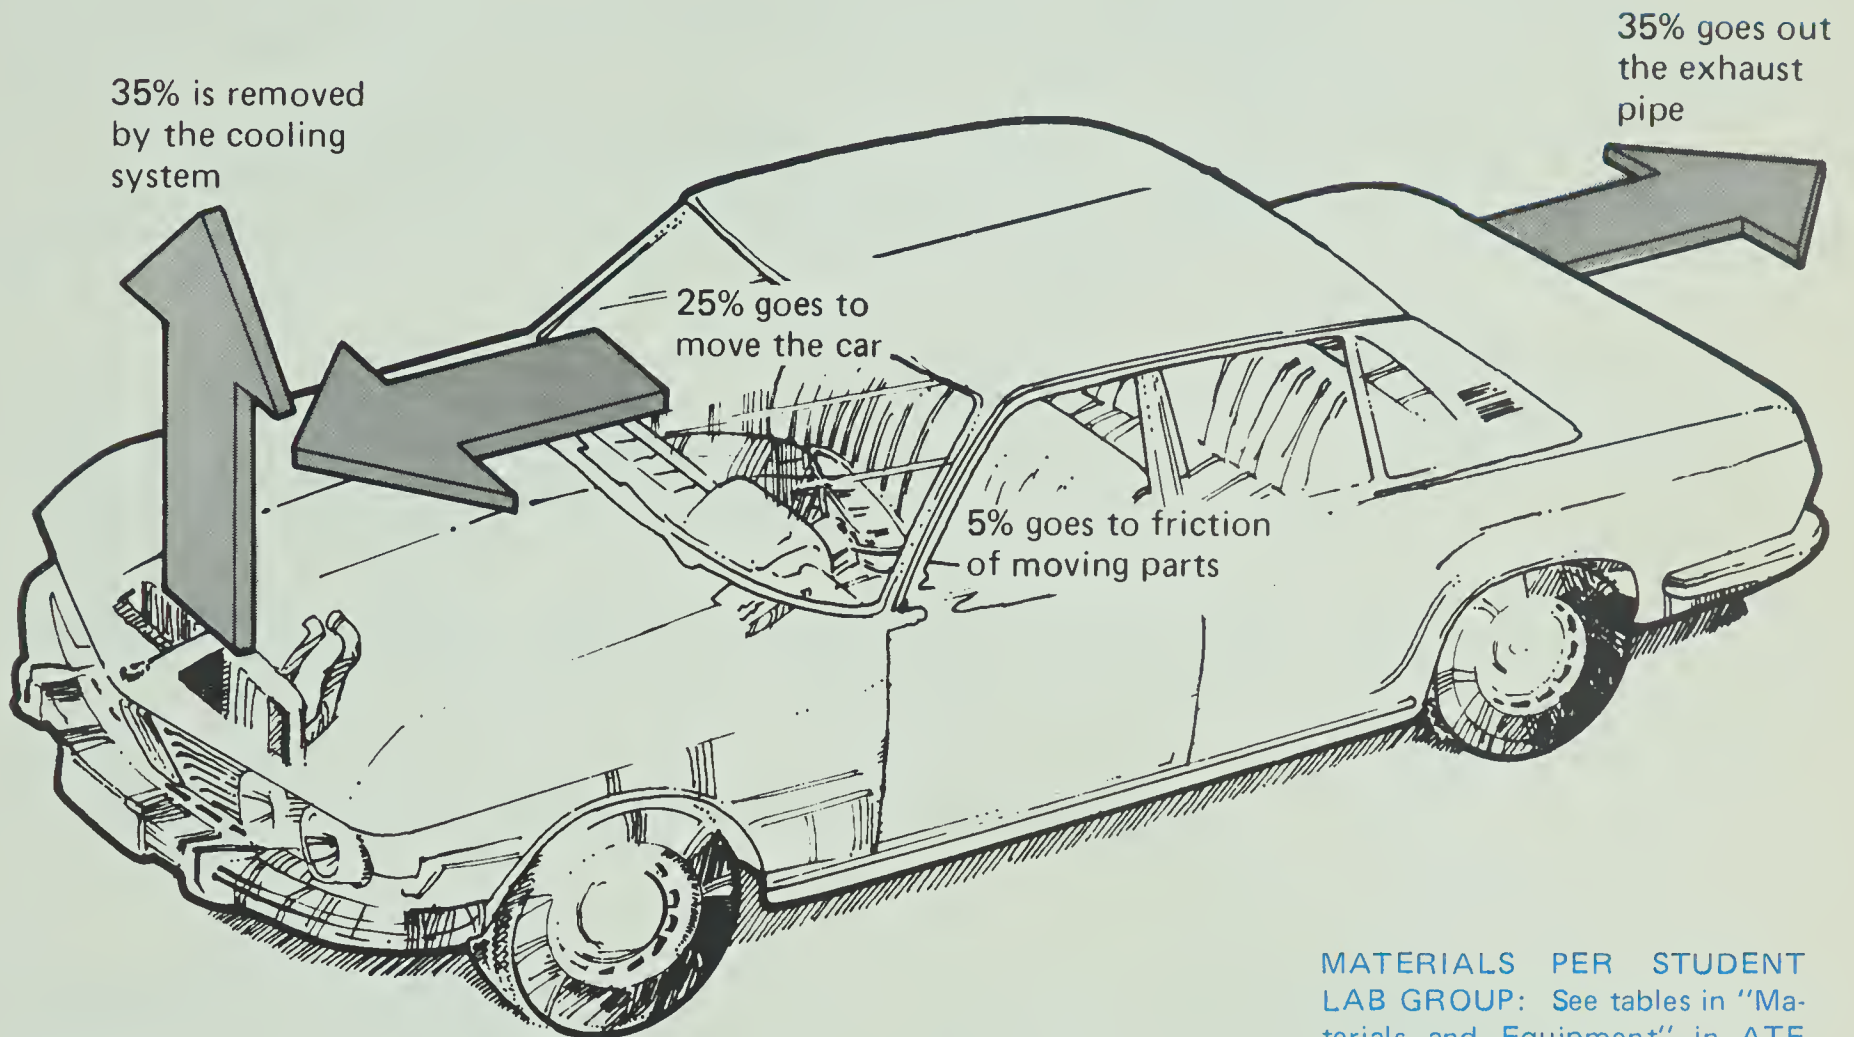

Figure 5-1
The air–fuel mixture in an automobile engine burns at a temperature of about 1100°C . A lot of heat energy is released. Figure 5-1 below shows where the energy goes.
- 5-1. How much heat energy must be removed by the cooling system? (See Figure 5-1.)